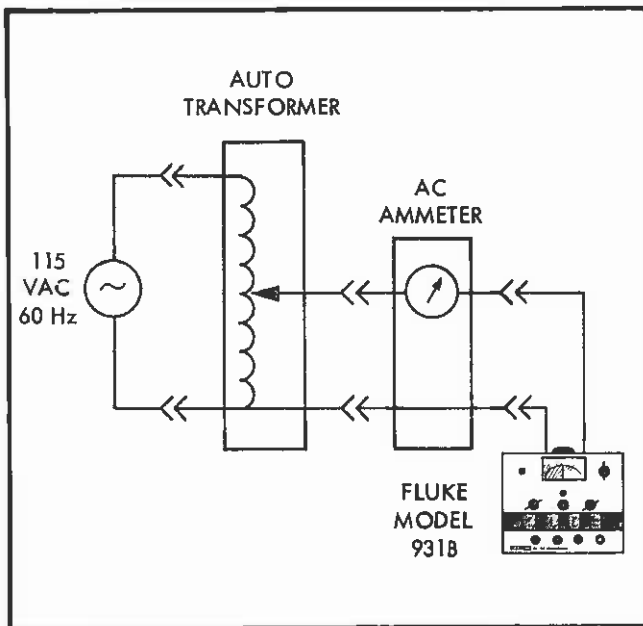

Figure 4-6. POWER SUPPLY CHECKS EQUIPMENT CONNECTIONS
- Remove the upper rear dust cover and side panels from the instrument and make the equipment connections illustrated in Figure 4-6.